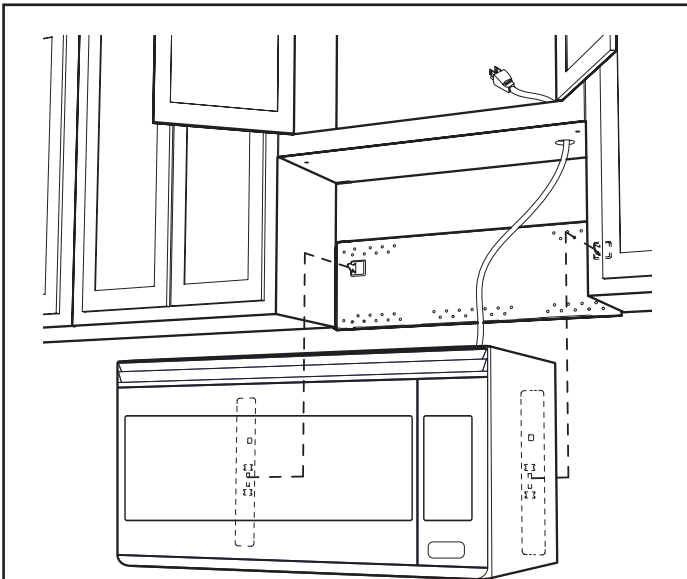

Figure 20
1. Thread the power supply cord through the hole made in the bottom of the top cabinet. Install the oven by snapping it onto the Mounting Plate. See Figure 20.